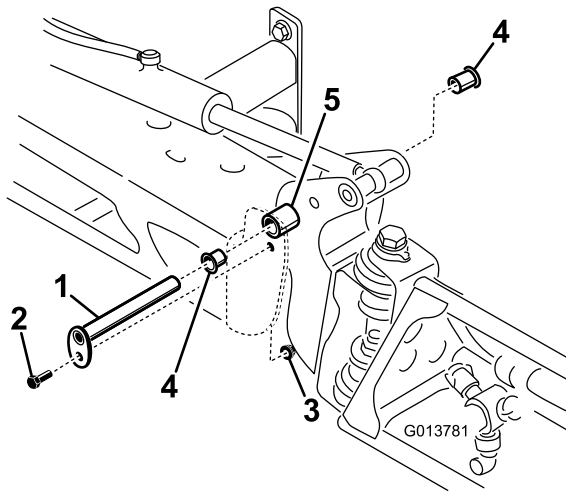

Figure 98
3. With the weight of the boom supported, remove the bolt and nut securing the pivot pin to the boom assembly (Figure 98).
4. Remove the pivot pin (Figure 98).
6. Remove and inspect the nylon bushings from the front and back sides of the pivot bracket (Figure 98).
8. Install the boom and pivot-bracket assembly into the center frame, aligning the openings (Figure 98).